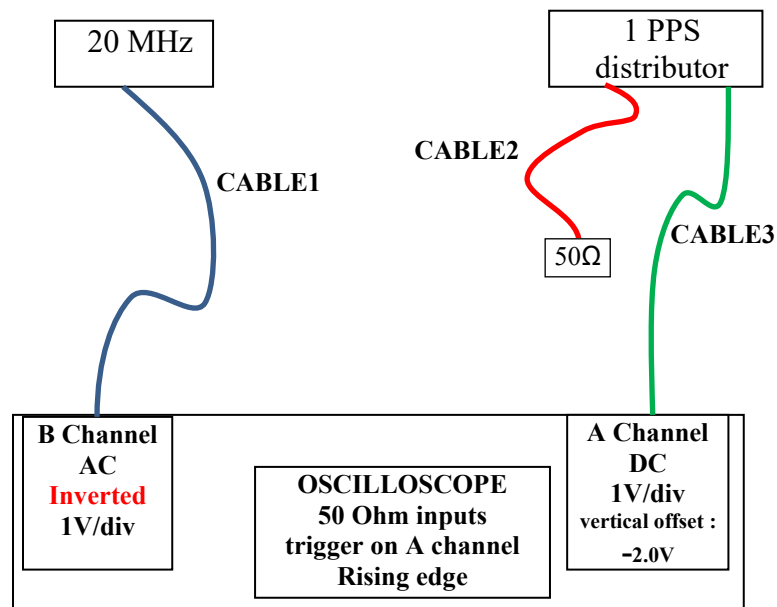

Figure 7. First set-up for measurement 2).
- a. This measurement is performed in the same way of Measurement 1a, but the setup is slightly different, as shown in Figure 7. Note the use of CABLE3.